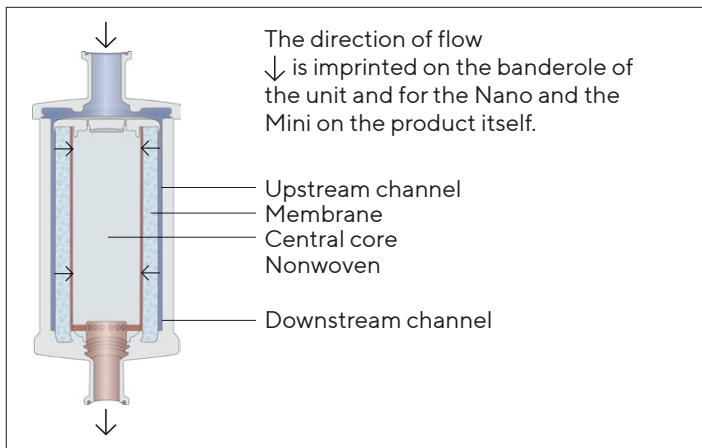

Fig. 2: Construction and flow path inside the capsules
- ▷ The flow is guided to the upstream channel (i.e. the solution enters the product) passing through the membrane layers to the downstream channel and to the outlet of the product (see Fig. 2).